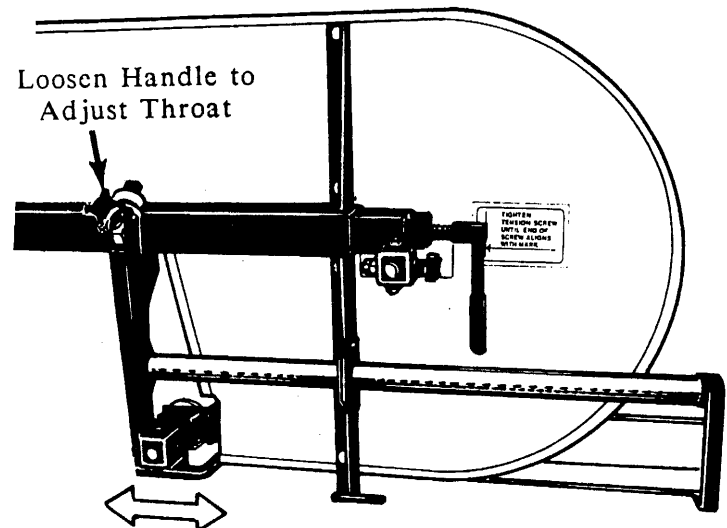

FIGURE 6
8. Adjust the width of the throat by sighting down the log to determine its maximum width. The outer blade guide should be adjusted to clear the widest section of the log by less than 1". This is done by loosening the clamping knob and sliding the movable blade guide horizontally in or out as necessary (See Figure 6). NEVER adjust the throat width while the blade is moving.